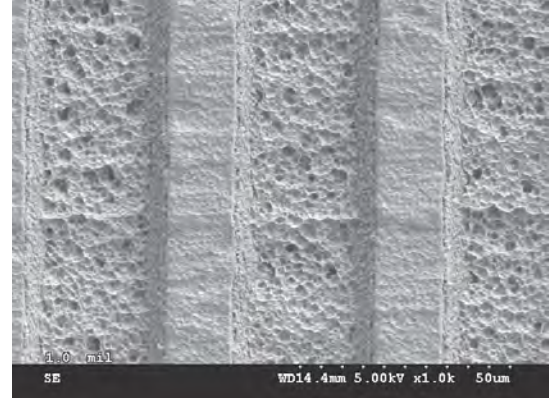

Figure 1. 150°C (302°F) Continuous Temperature
- Excellent long-term thermal exposure performance (**Figure 1**)